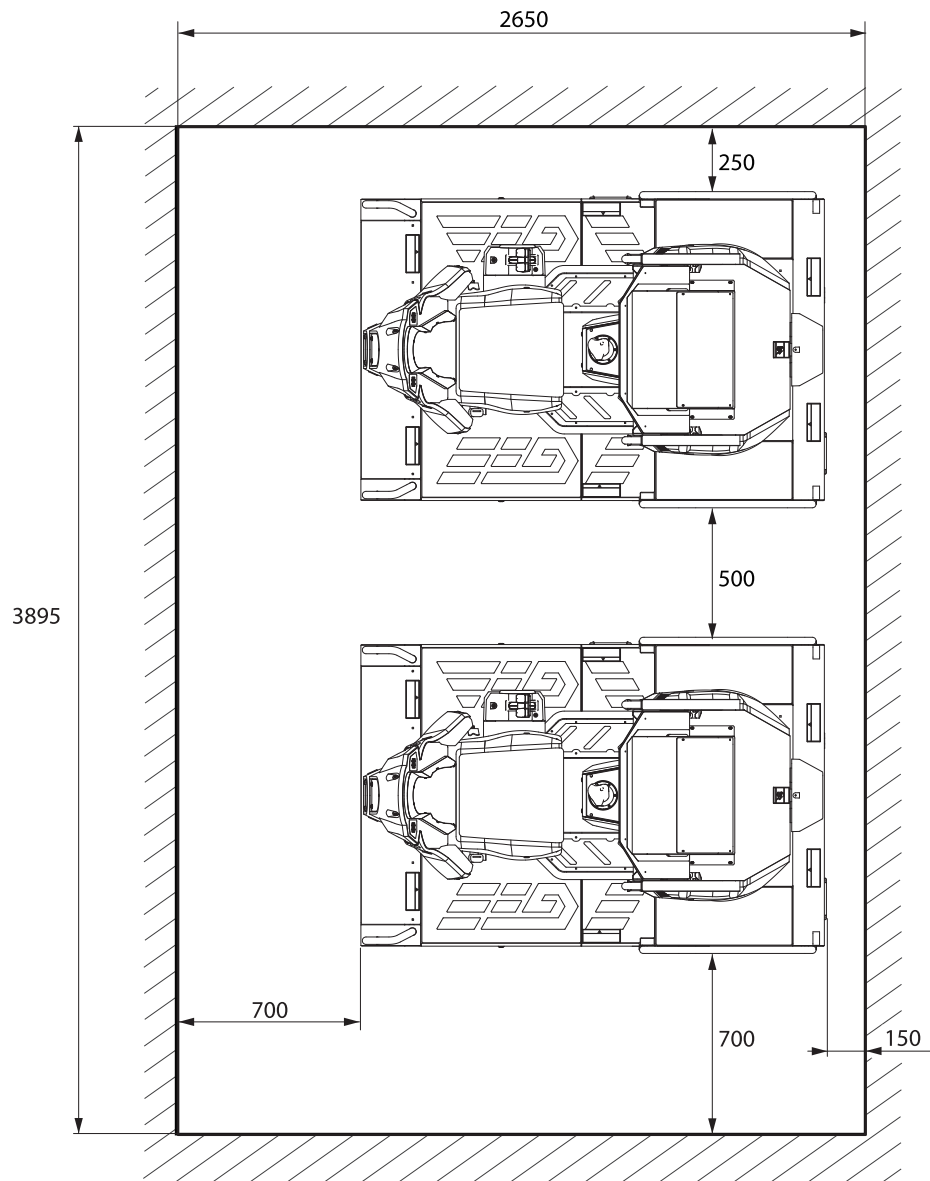

FIG. 20-1 Installation for network play
- 6** Move the two game machines joined by network cable and install them aligned. For ventilation, establish an interval of at least 150 mm between one machine and any other machine or the wall. Make the space between aligned machines as wide as possible. (See Fig. 20-1.)